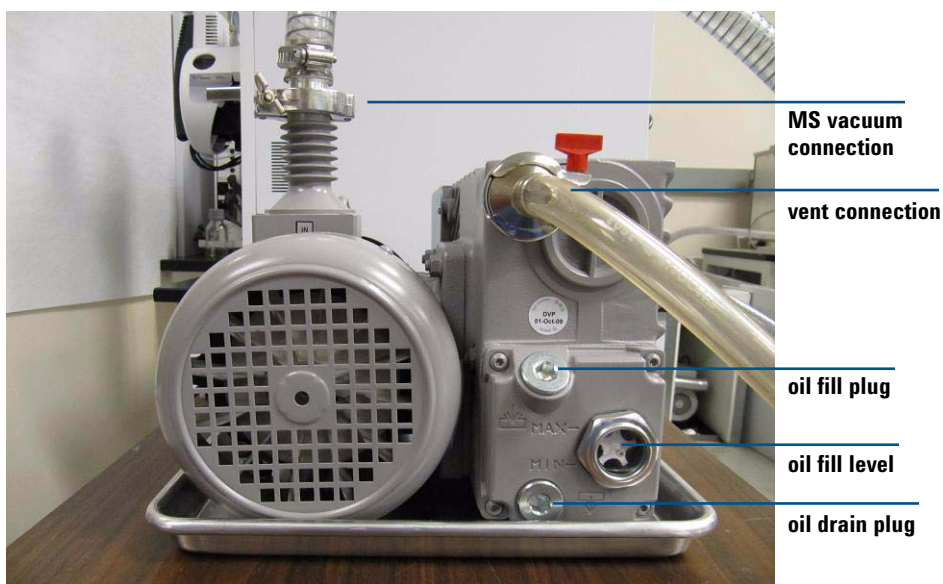

Figure 85 Fluid level window on the rough pump
- Check the fluid level in the window of the rough pump. The fluid level should be between the marks for Max and Min (see Figure 85).
- 5 Add new SW60 oil until the fluid level is near, but not over the maximum mark beside the fluid level window (see Figure 85). Use a funnel.
- 4 Remove first the fill cap (see Figure 85 on page 158), and then open the drain plug.
- 6 Pour in new pump fluid until the fluid level is near, but not above the maximum mark beside the fluid level window (see Figure 85 on page 158).